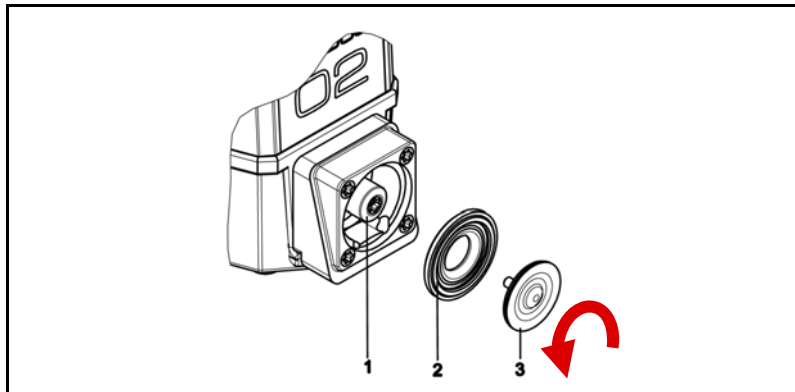

Fig. 54: Replacing the pump diaphragm
3. Lift pump membrane (3) at opposite side edges, grip and screw out by turning anticlockwise (see arrow in Fig. 54)